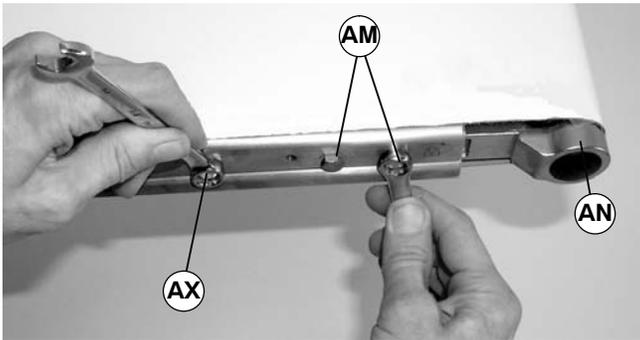
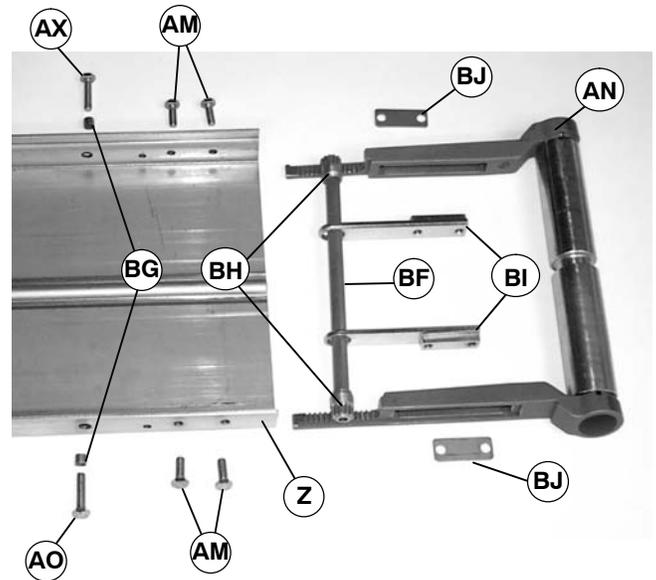

Figure 27
Figure 33
1. On tension end of the conveyor, loosen two M6 hex head cap screws (AM of Figure 27) on each side of conveyor.
3. Repeat steps 1 and 2 for screw (AX of Figures 27 and 33) on opposite side of conveyor.
4. Remove two M6 hex head cap screws (AM) from each side of conveyor.
5. Remove two pinion ends (BH of Figure 33), clamp blocks (BI), hex pinion (BF), two spacers (BJ) and tail assembly (AN) from conveyor (Z).
**IMPORTANT:** Loosely install two spacers (BJ of Figures 33 and 41) and four screws (AM) prior to installing idler tail assembly (AN) on conveyor.